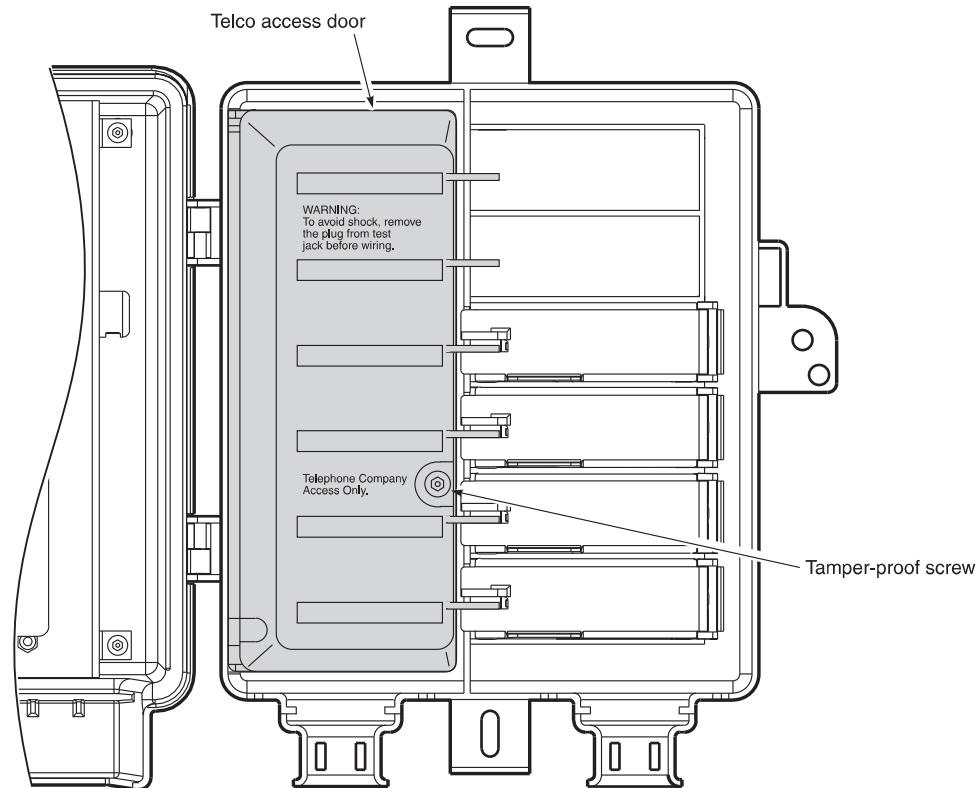

Figure 6. Opening the Telco Access Door
- 1 Use a 5/32-inch tamper-proof hex key to loosen the tamper-proof screw on the Telco Access door, then open the Telco Access door (Figure 6).